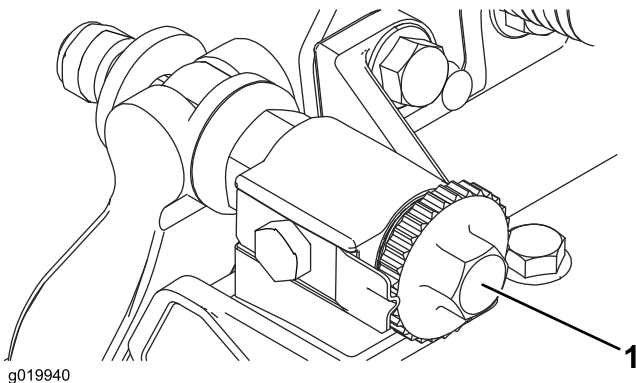

Figure 8
2. Turn the bedbar adjusting screws counterclockwise to ensure that the bedbar does not contact the reel (Figure 8).